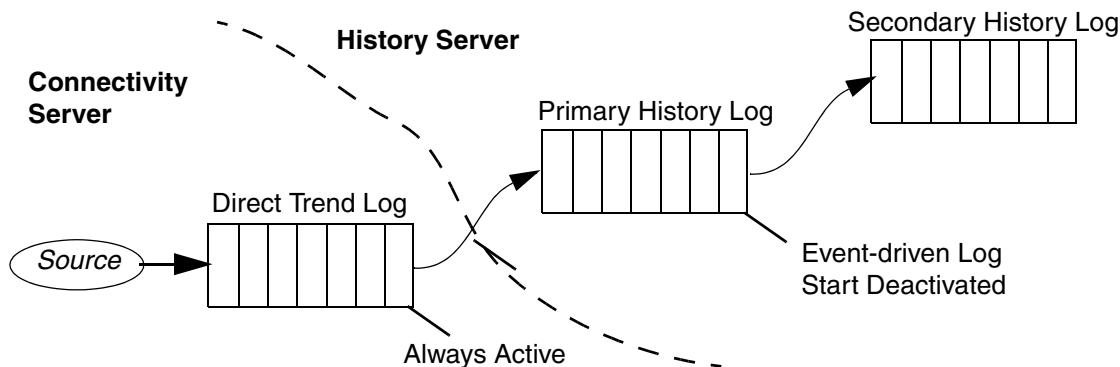

Figure 136. Example, Event-driven Data Collection
- The event-driven log must be a history log, and it must be the (first) primary log connected to the direct trend log, Figure 136. Also this log must be configured to start deactivated. The log will go active when the event trigger occurs.